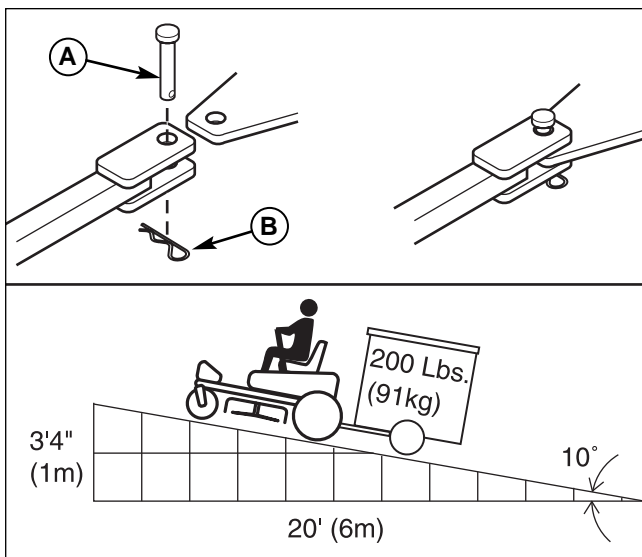

Figure 12. Trailer Weight Recommendations
The maximum weight of a towed trailer should be less than 200 lbs (91kg). Secure the trailer with an appropriately sized clevis pin (A, Figure 12) and clip (B).